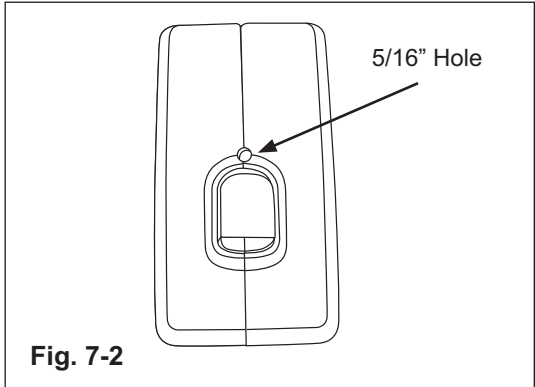

Fig. 7-2
- b) Using a 5/16" drill bit, drill a hole in location shown. (Fig. 7-2)